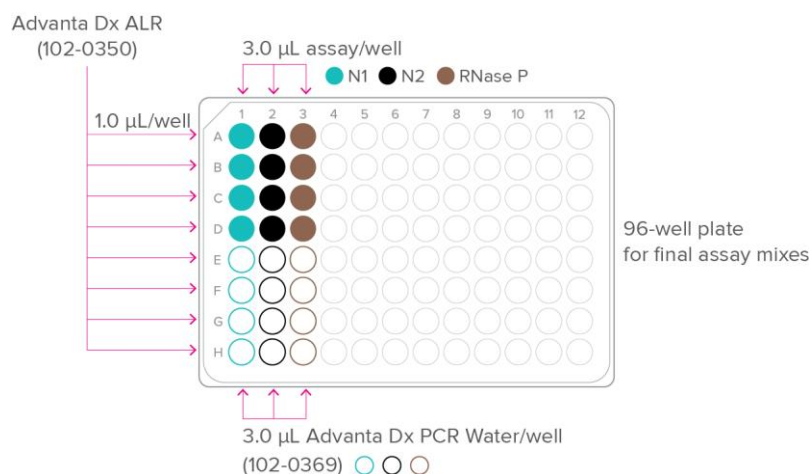

Figure 2. Final assay mixes plate (per-well transfer volumes)
- 2 In a DNA-free hood, prepare the assay mixes using the 2019-nCoV Probe & Primer Kit (102-0686) as shown in Figure 2.